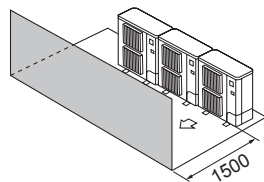

Fig. 2-14
- ③ Solo ostacoli anteriori (Fig. 2-14)